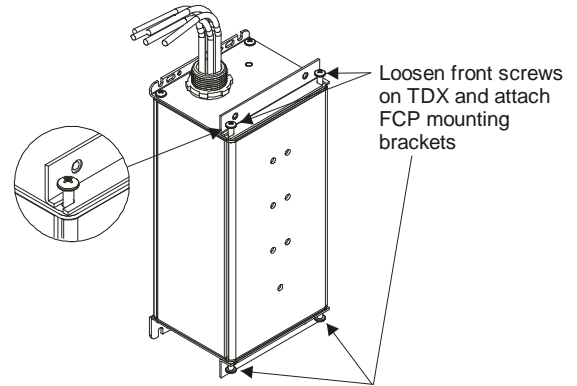

FIGURE 1
2. Loosen front screws in TDX end plates as shown in Figure 1. Apply FCP Mounting Brackets and retighten TDX screws.